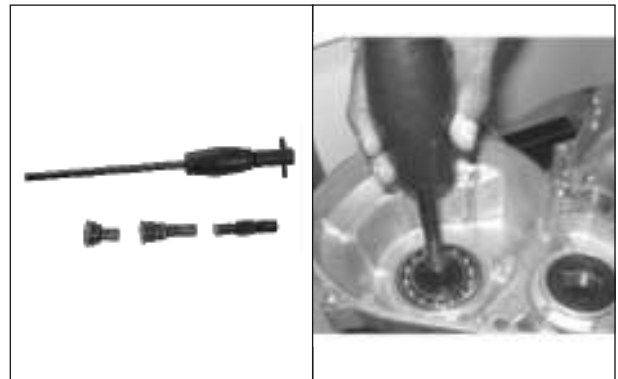

Fig. 1.13
- Assemble the required adapter and locator on the punch and place the assembly on the bearing as shown in the figure and apply glow with a mallet on punch to assemble bearing inside the crankcase.(fig. 1.13)